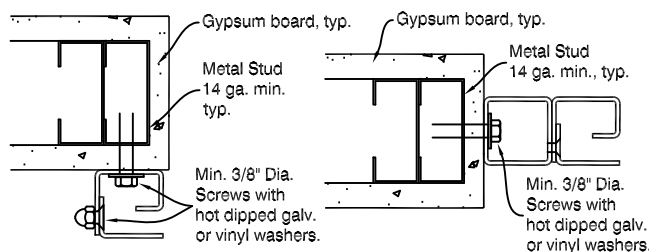

Fig. 6
**d.** When fastening to a double(2) metal stud jamb, each stud is to be minimum of 14 gauge. Fasten using a min. of 3/8" dia. self-tapping screws, as shown in Fig. 6.